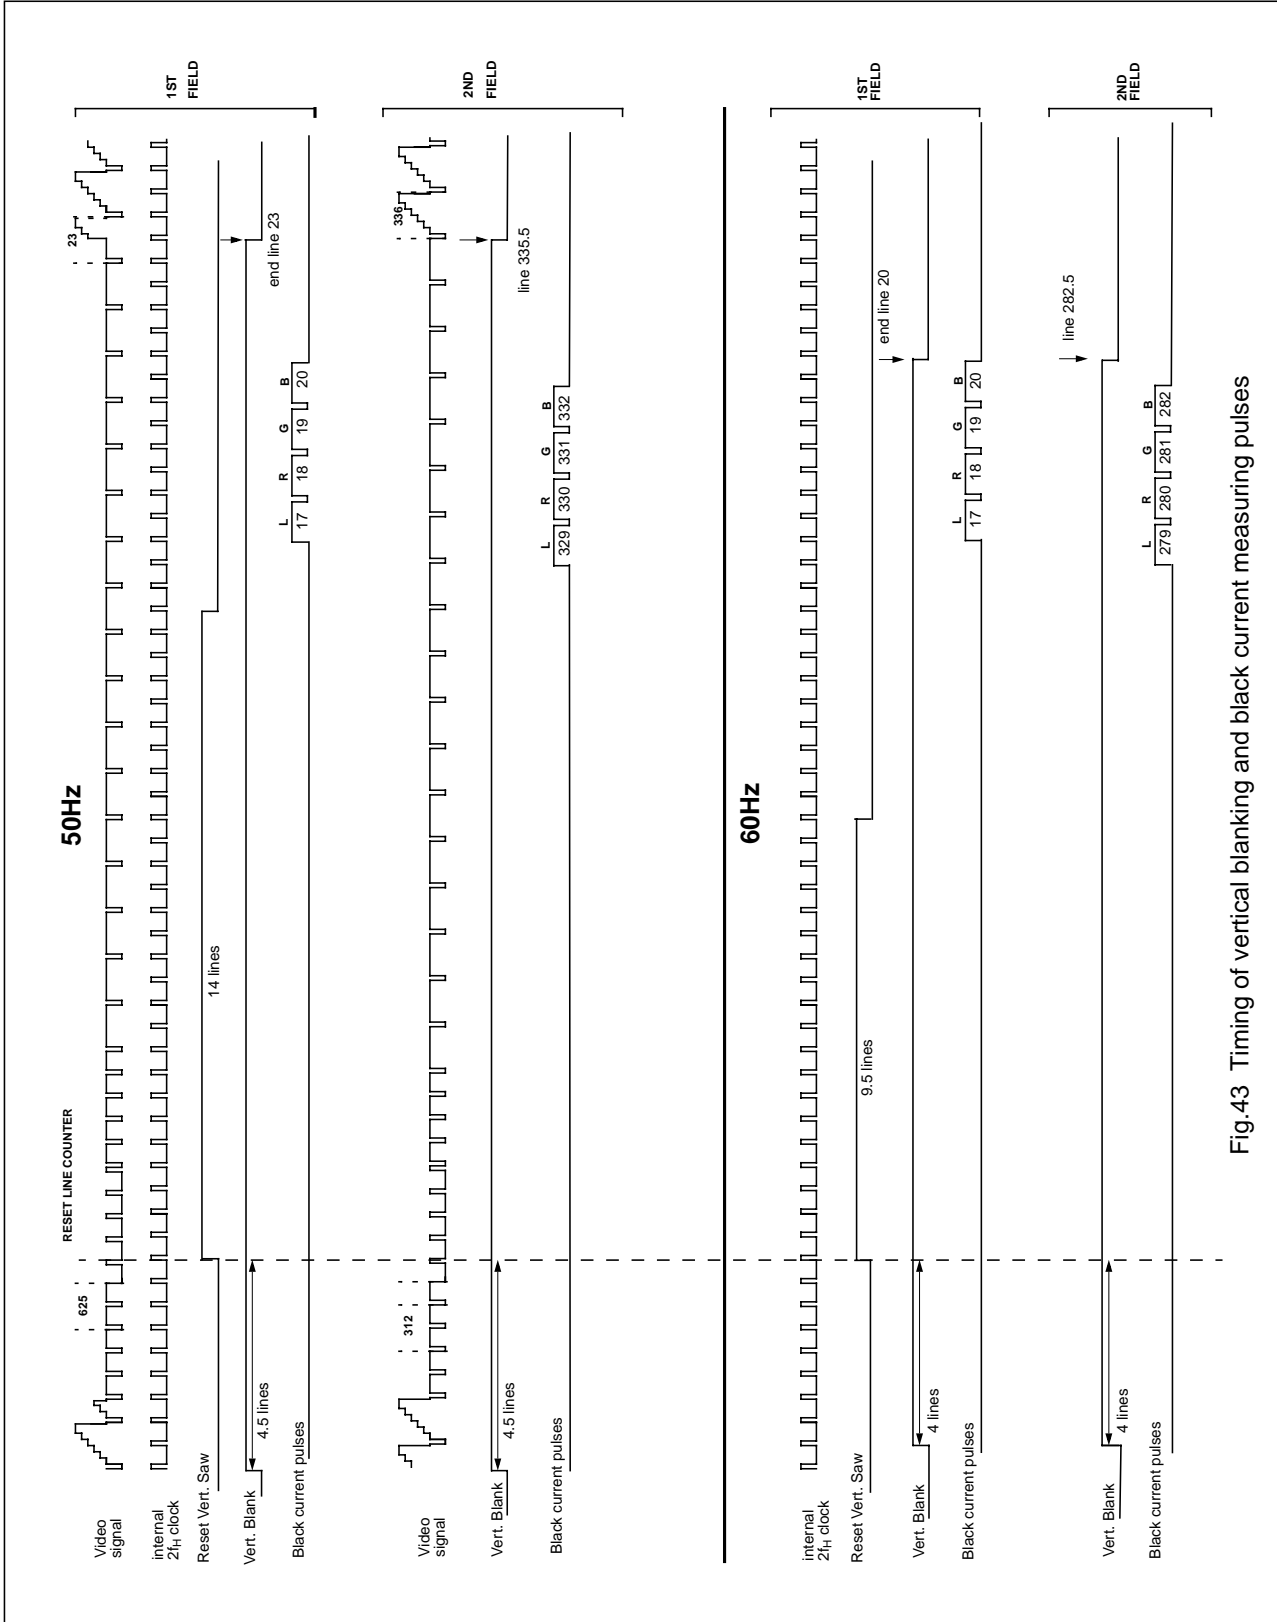

Fig.43 Timing of vertical blanking and black current measuring pulses
57. This is a current input. The timing of the measuring pulses and the vertical blanking for the 50/60 Hz standard are given in Fig.43
58. The input of the vertical guard function can be connected to the black current measuring input (BLKIN) or to the beam current limiting input (BCLIN). The switching between these modes is realised by means of the IVG bit in subaddress 2BH. When the black current input is chosen it should be noted that for a reliable operation of the protection system and the black current stabilization system the end of the protection pulse during normal operation should not overlap the measuring pulses (see also Fig.43). Therefore this pulse must end before line 14.